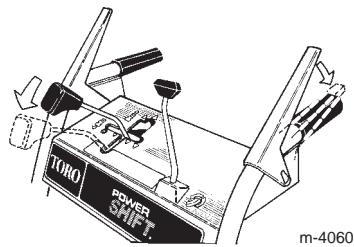

Figure 21
2. Move the speed shift control fully forward to the Power Shift position and hold it there (Fig. 21).
- Fully engage the traction drive lever to move the wheels into the alternate position (Figs. 21 and 22).